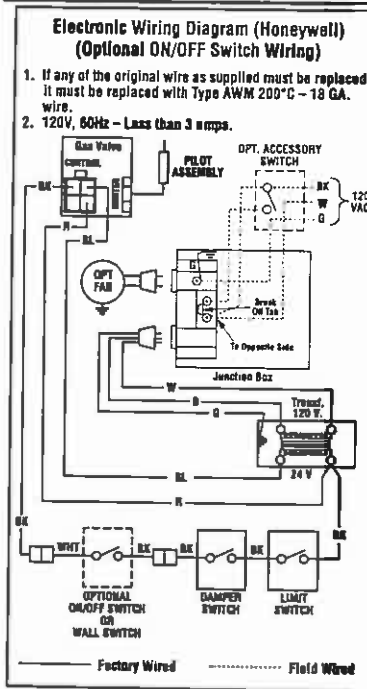

Figure 13
1. Route a 3-wire 120V 60Hz power supply to the appliance junction box and ground. (See *Figures 13 and 15*).
2. Locate and install a low voltage (24V) wall switch (not supplied) in the desired location. Connect the low voltage wire to this switch (see *Figure 13*).
IMPORTANT: Ground lead must be connected to the green screw located on the outlet box. See *Figure 13*. Failure to do so will result in a potential safety hazard. The appliance must be electrically grounded in accordance with local codes or, in the absence of local codes, the National Electrical Code, ANSI/NFPA 70-(latest edition). (In Canada, the current CSA C22-1 Canadian Electrical Code.)